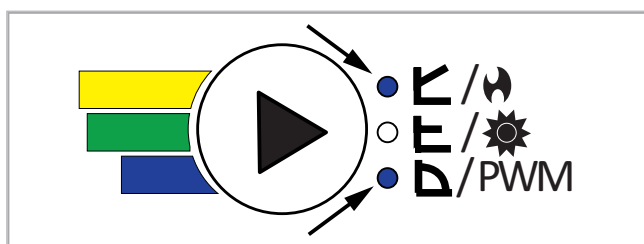

Fig. 131: Operating panel of the IMP NMT Neo PL 15/40 pump (set-up here: PWM-H)
4. Check the setting of the type of control (PWM-H) on the secondary pump IMP NMT Neo PL 15/40. If the setting is correct, the top and bottom type of control LEDs light up simultaneously (see → Fig. 131).